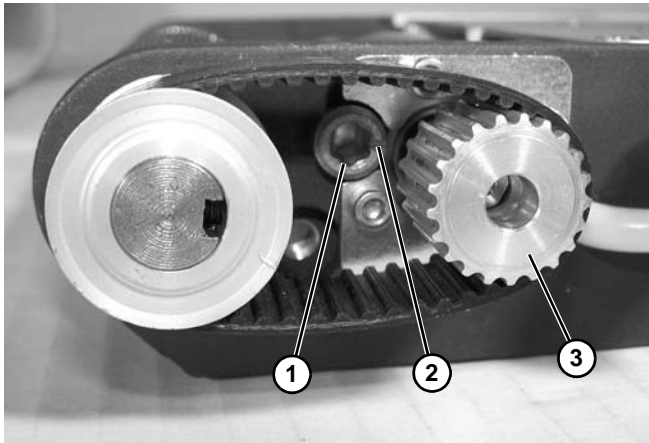
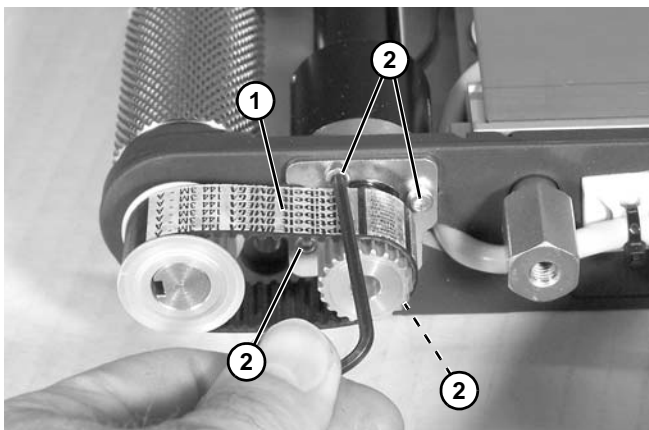

Figure 90
Figure 91
12. Tighten timing belt tension cam (Figure 90, item 1), making certain that pointer (Figure 90, item 2) on cam is pointing towards the motor drive spindle (Figure 90, item 3).
13. Rotate tension cam (Figure 90, item 1) to fully tension the timing belt (Figure 91, item 1). Tighten four clamp plate screws (Figure 91, item 2) to 15 in-lb (1.7 Nm) to secure position.